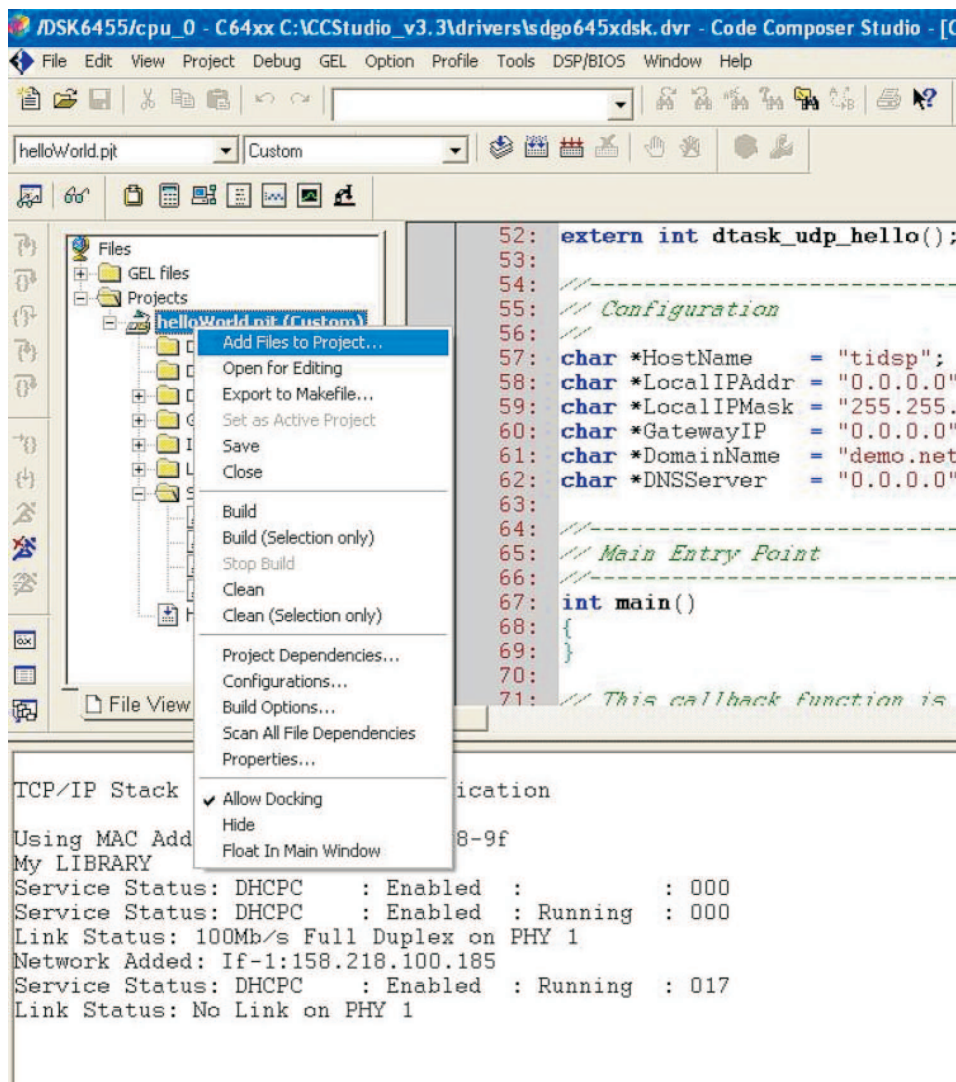

Figure 7. Source File Addition to Existing Project
1. Right click on the project file in the Project window, as shown in Figure 7, and select *Add Files to Project*, to add any HAL library sources to the Code Composer Studio project. This opens up a window so that you can browse to the required HAL sources directory and select the appropriate source code files and add them.